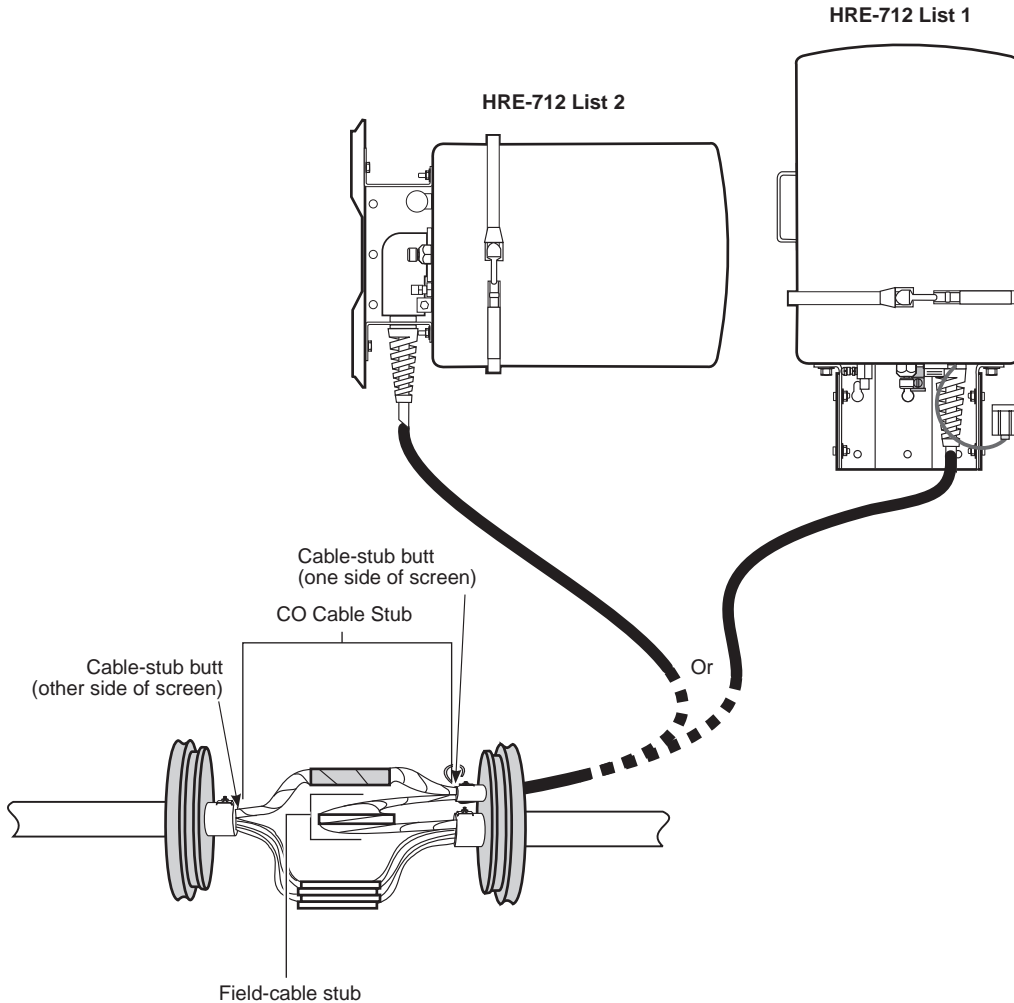

Figure 11. Dress Splice in Splice Case
- 3 Connect the CO side of the main cable to the CO side of the cable stub with a straight splice, as shown in Figure 11 on page 30.
- 6 Once the cables are connected, wrap the field splice with aluminum tape as shown in Figure 11 above or dress out the splice according to local procedures.